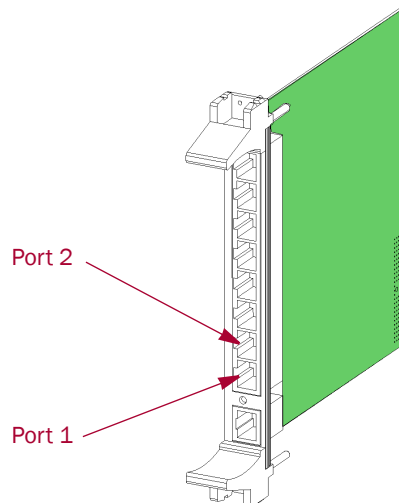

Figure 5-6: VIA 8-port Router Card
2. Connect one of the RJ-45 patch cables (P/N 973174-105) from the ethernet port on the **Master** Library Controller to **Port 1** (see Figure 5-6) on the VIA card.
3. Connect the other RJ-45 patch cable from the ethernet port on the **Slave** Library Controller to **Port 2** (see Figure 5-6) on the VIA card.